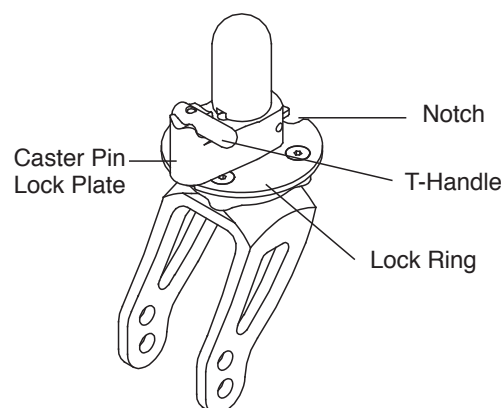

Figure 91
1. Rotate the front caster until either notch on the lock ring is directly beneath the T-Handle. See Figure 91.